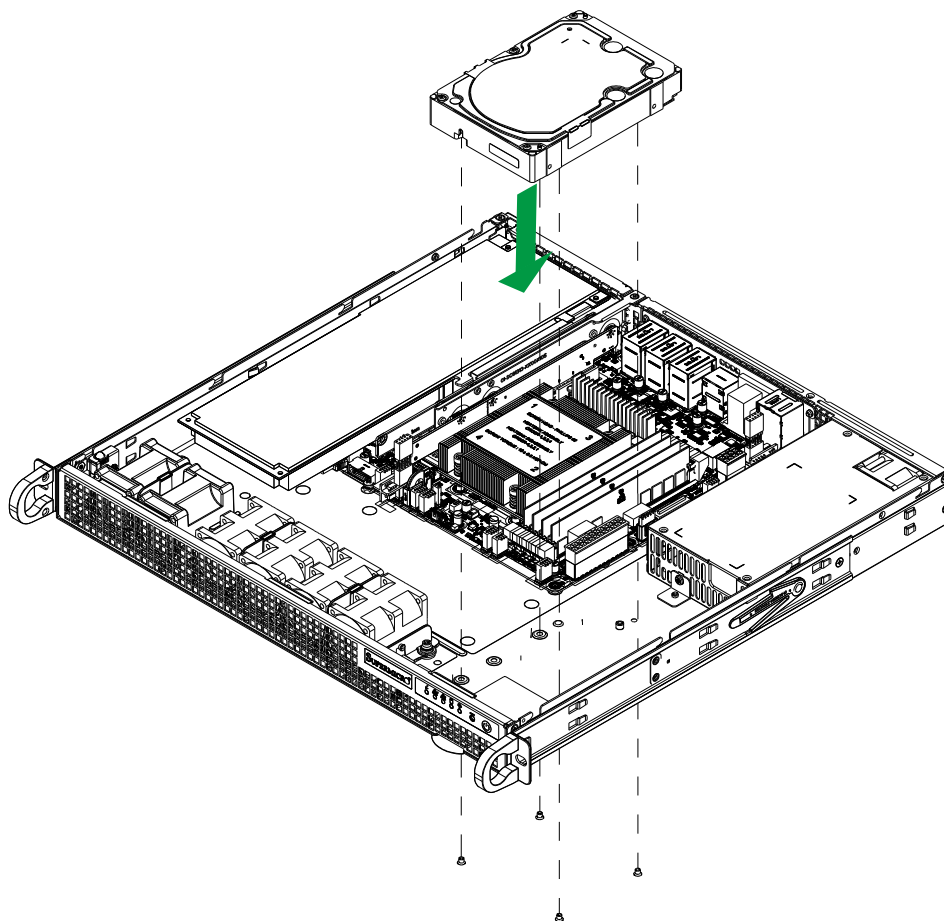

Figure 3-4. Securing the 3.5" Storage Drive to the Chassis Floor
3. For the 3.5" storage drive, secure the storage drive to the chassis floor with the four screws. (Figure 3-4)